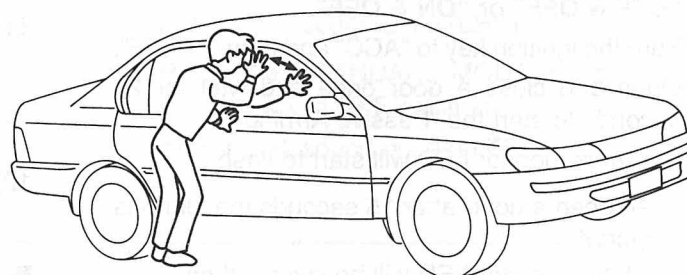

Fig. 6
- 3) Place your hand very close to the driver's window area. Then wave your hand sideways across about 30 cm span several times. (The purpose of this is to simulate a person's movement passing close to the vehicle). (See figure 6).